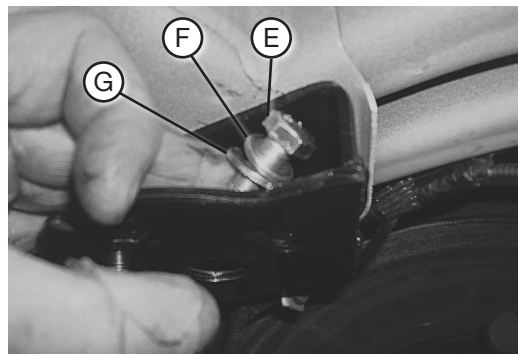

fig. D.8
2. Insert two 3/8"-24 x 7/8" hex head cap screws (E) with two 3/8" lock washers (F) and two 3/8" flat washers (G) into the slots in the upper bracket so they face down (Figs. D.8 & D.9).